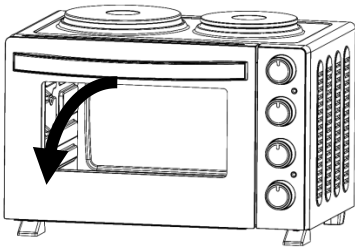
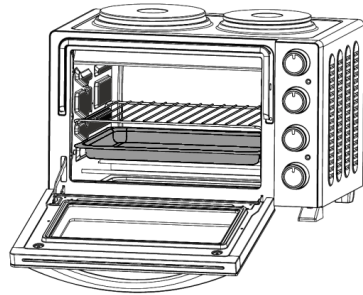

Fig. 10
Fig. 11
- How to open and close the door – see Figs. 10 –12
7. Open the oven door (Fig. 10) and place the food into the oven using the grill rack and / or baking tray (Fig. 11).